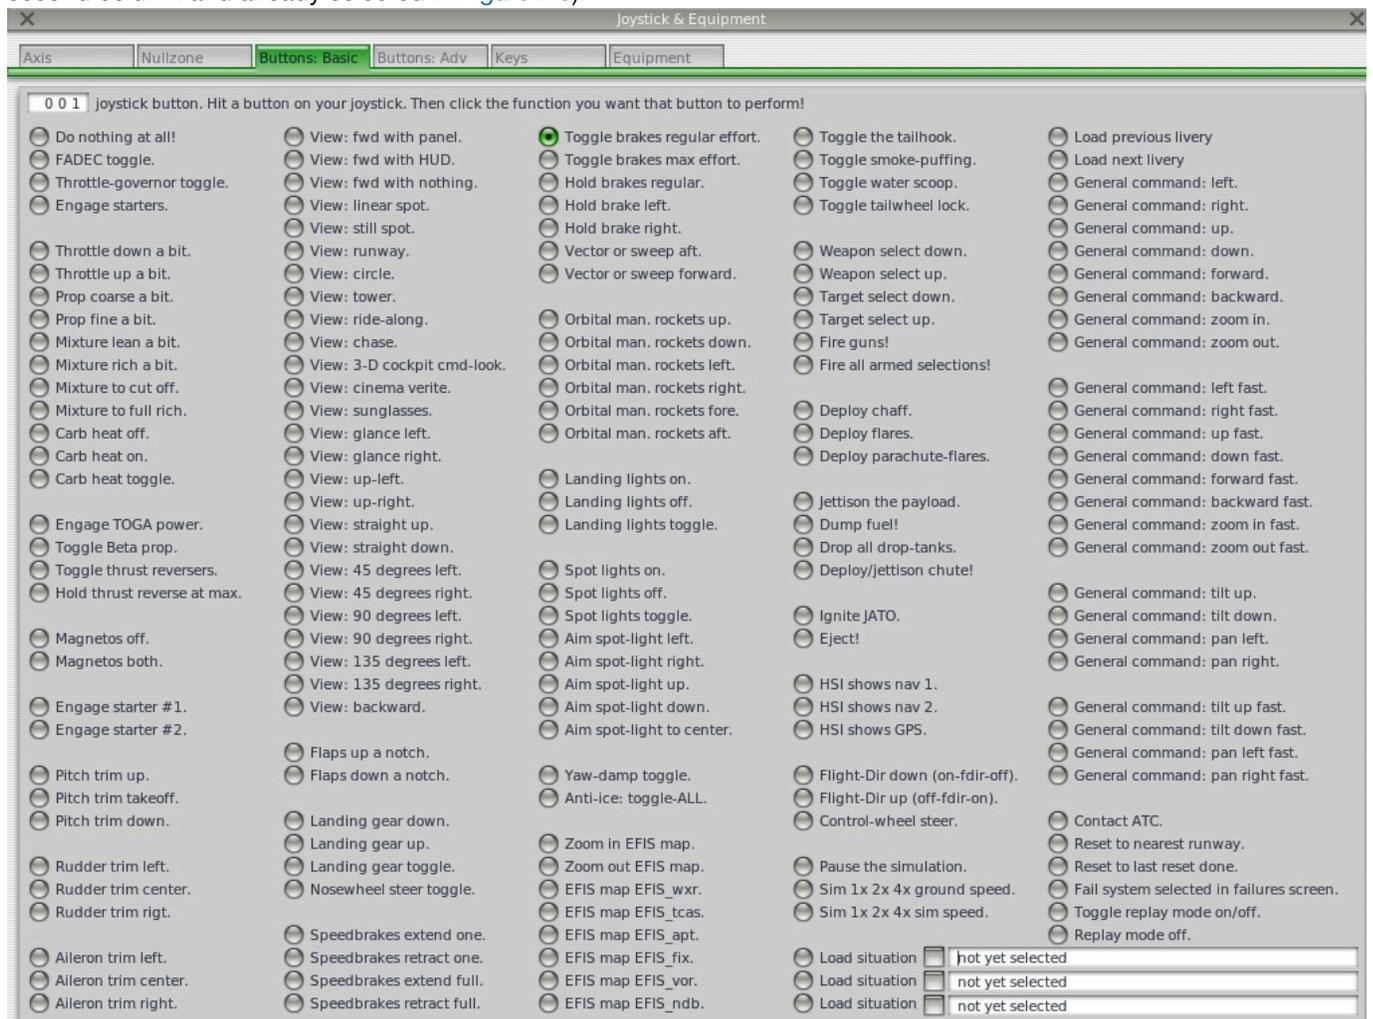

Figure 2.5: The Buttons: Basic tab of the Joystick & Equipment menu, with a button set to **Toggle brakes regular effort**
- Using the mouse, click the round button to the left of **Toggle brakes regular effort** (found near the bottom of the second column and already selected in Figure 2.5).